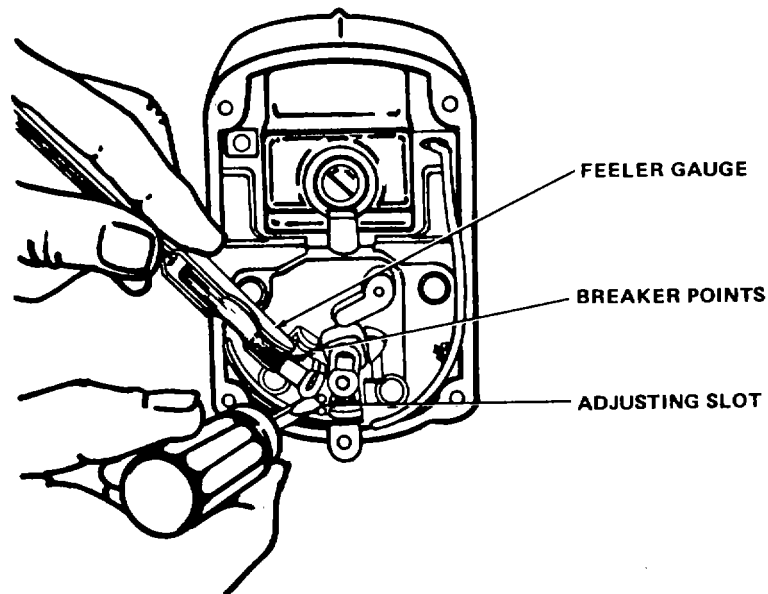
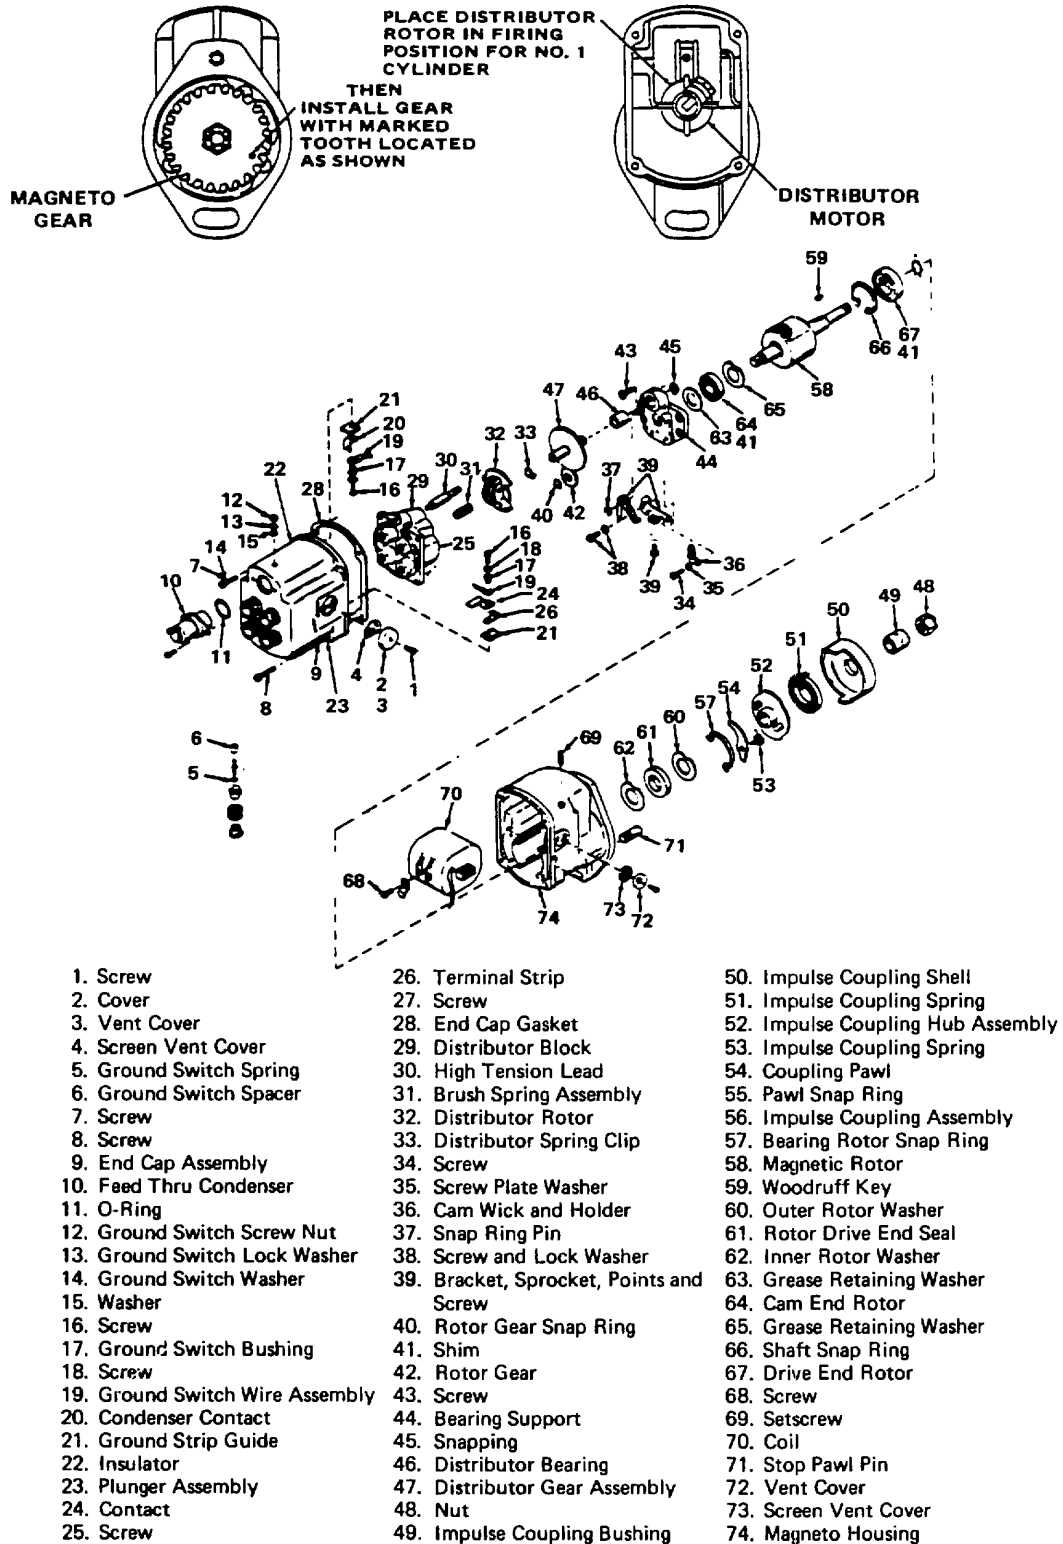

Figure 5-18. Contact Point Gap
Figure 5-19. Magneto
5-10. MAGNETO (Figure 5-18 and Figure 5-19)
- (1) Disassemble the magneto in the sequence shown in Figure 5-19.
- (2) Discard capacitor and seal.
- (3) Discard distributor block, rotor and contact point set.
- (1) Reassemble magneto in reverse order of sequence shown in Figure 5-19.
- (2) Install new parts from repair kit (capacitor, seal, distributor block, distributor rotor and point set).
- (3) Lubricate cam portion of rotor gear with a light coat of distributor cam lube.
- (4) Adjust maximum contact point gap to .015 inches. See Figure 5-18.
- (5) Install magneto drive gear as shown in Figure 5-19.